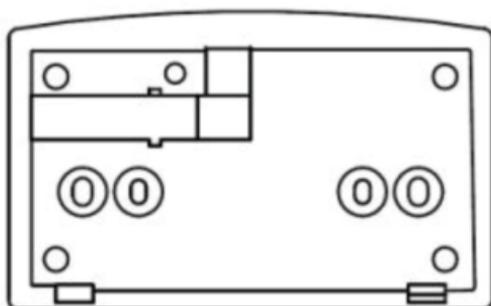

Fig.3
2. Fix the back plate directly on the wall using suitable wall plugs and screws or mount over existing wall box (Fig.3).